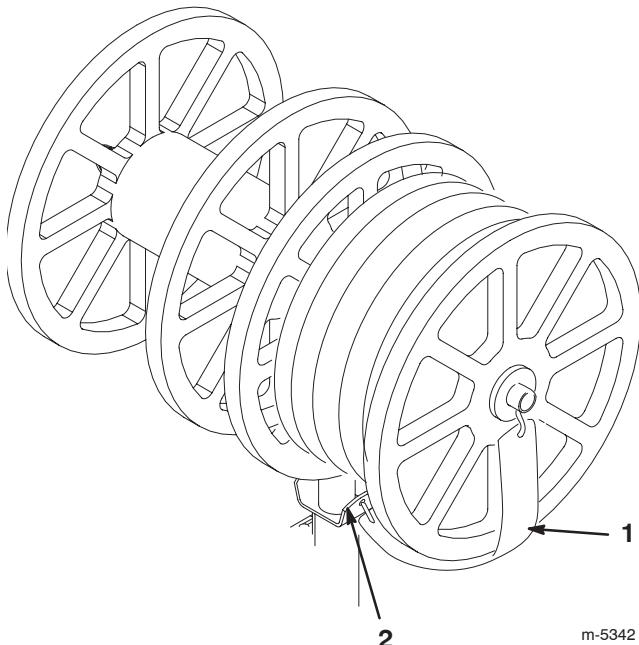

Figure 3
- Slide a brake cover over a brake strap (Fig. 3).
- Install a hook on the brake strap through one of the holes from where you removed the lynch pin (Fig. 3), orienting the brake cover as follows:
- Hook the free hook of the brake strap to the bracket on the spool carrier (Fig. 3).